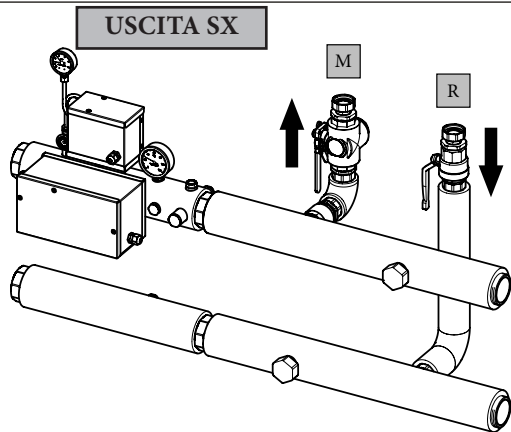

Fig. 2
N.B.: If assembling the INAIL safety devices kit on the left side, perform the installation as shown in figure 2.